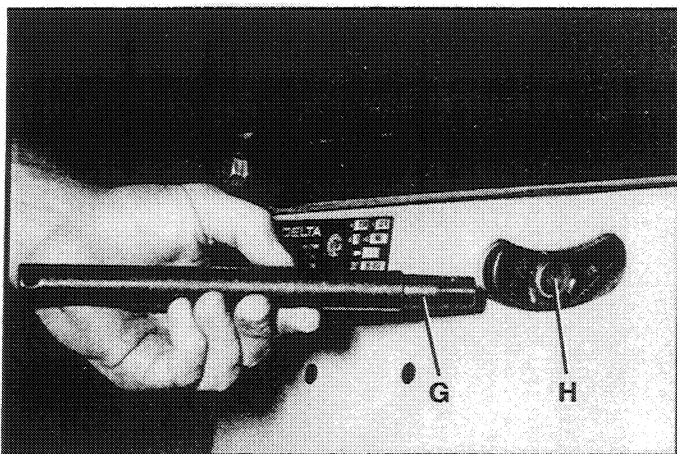
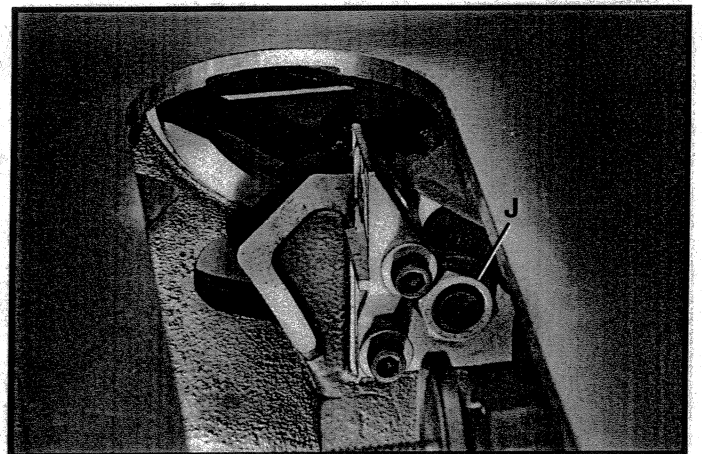
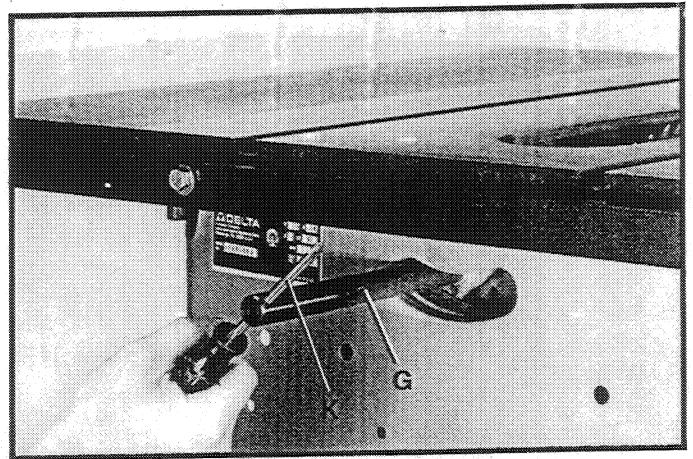

Fig. 37
Fig. 38
Fig. 39
5. Insert threaded end of support rod (G) Fig. 37, through slot in rear of saw and into hole in rear trunnion (H). Fasten support rod (G) to trunnion with star washer and hex nut (J) Fig. 38. **NOTE:** Thread nut (J) Fig. 38, onto threads of support rod (G) as much as possible by hand.
6. Using a wrench to hold the hex nut (J) Fig. 38, tighten rod (G) Fig. 39, with a small screwdriver (K) or similar device through the hole in the end of the rod as shown.